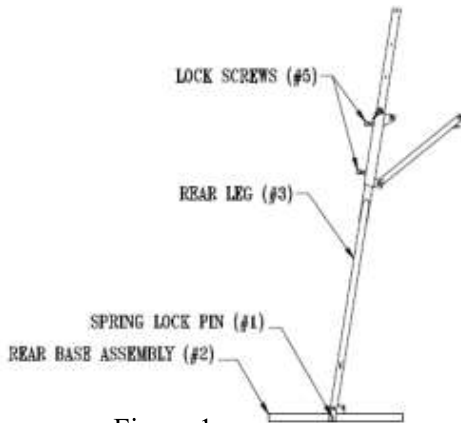

Figure 1
- b. Refer to Figure 1. Remove the two spring lock pins #1 on the rear leg base #2 and raise the rear leg #3 to an upright position